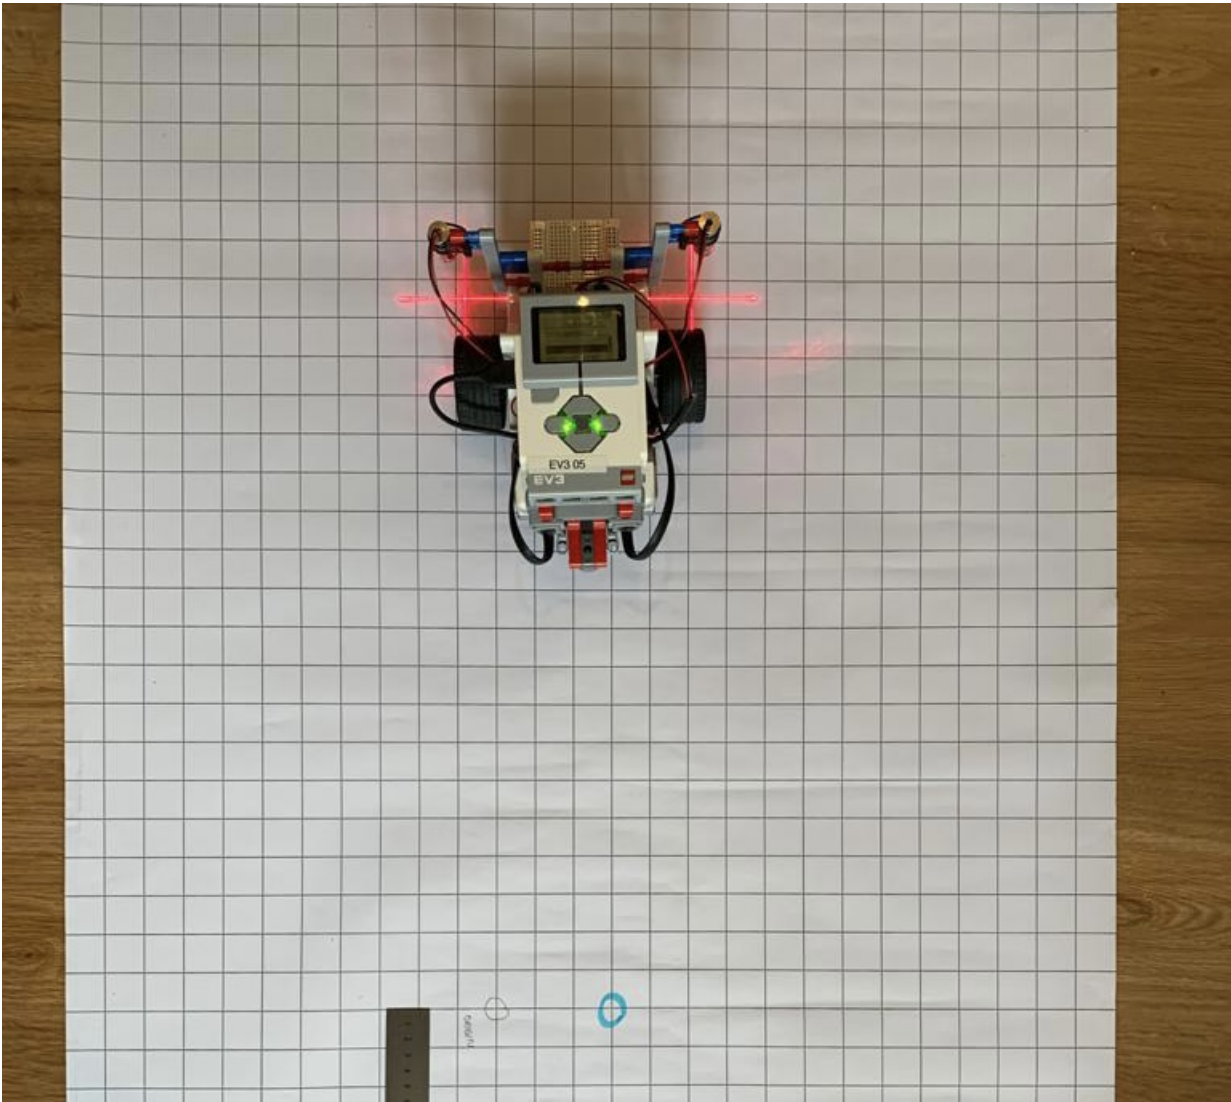

Figure 1.7: Rosa with the measurement facility 2
- The Figure 1.7 represents the distances between the two cross lasers and the center of the robot.